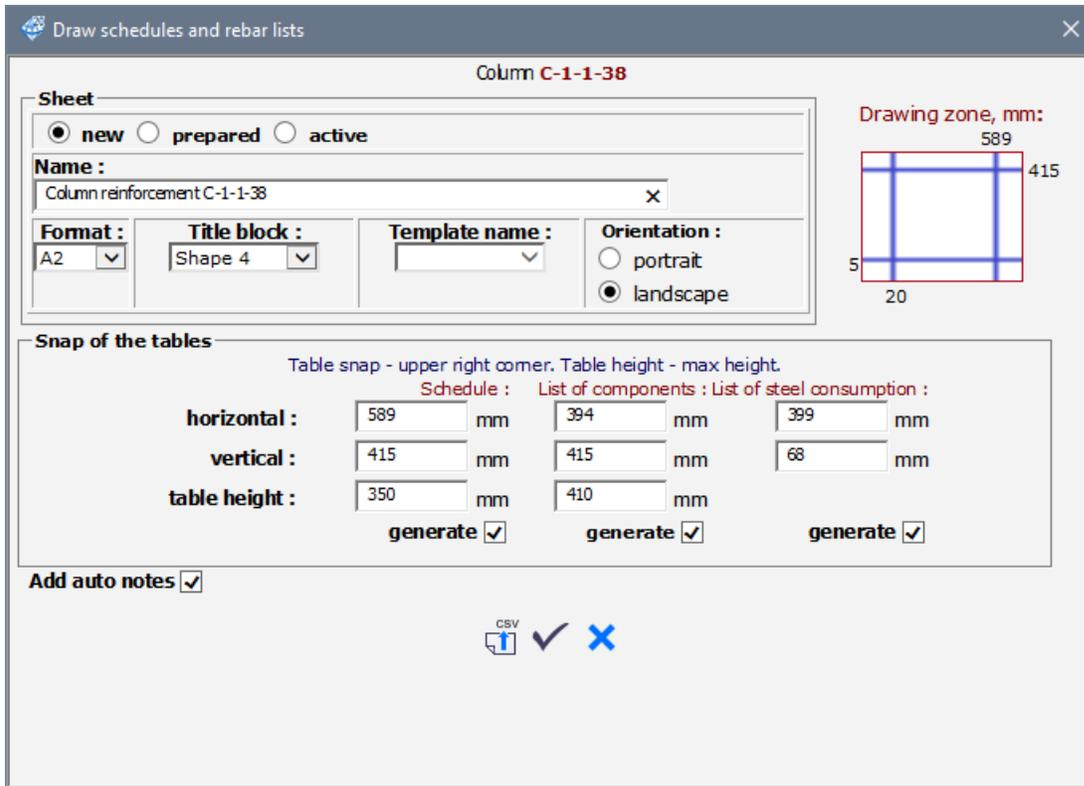

Figure 27.23. Draw schedules and rebar lists dialog box
- ➔ In the **Draw schedules and rebar lists** dialog box (see Fig. 27.23), define the following data: